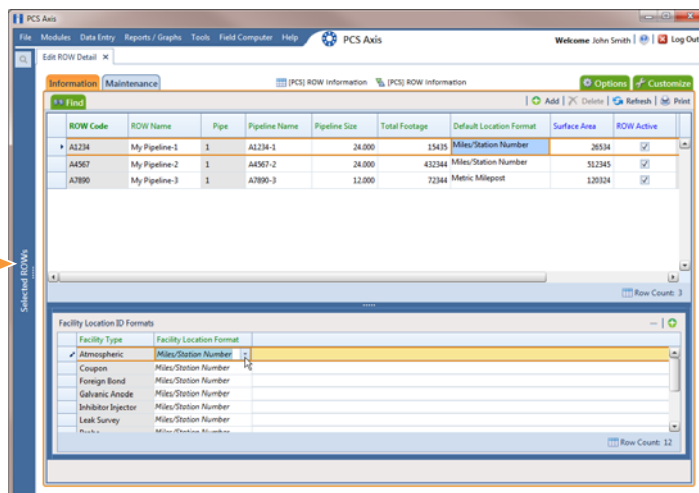

Figure 4-11. Edit ROW Detail
- 3 Click **Data Entry > Edit ROW Detail** to open the *Edit ROW Detail* window (Figure 4-11, page 149).